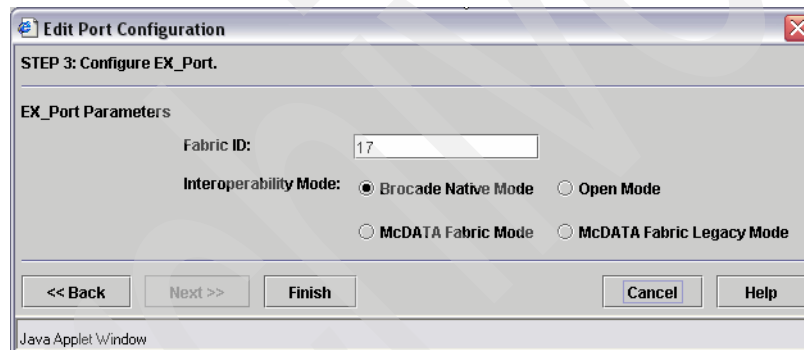

Figure 6-60 Final stage of EX\_Port configuration
5. We now supply a Fabric ID, as shown in Figure 6-60. A default of 17 is specified. A fabric ID is set on every EX\_Port that connects to a unique fabric. Because the router can be connected to multiple fabrics at the same time, it needs a unique ID for each fabric. For example, if we connect port 15 to fabric A and port 14 to fabric B, we need to choose a different fabric ID for ports 14 and 15. However, if both port 14 and 15 were connected to the same fabric, the fabric ID needs to be set the same on both ports.